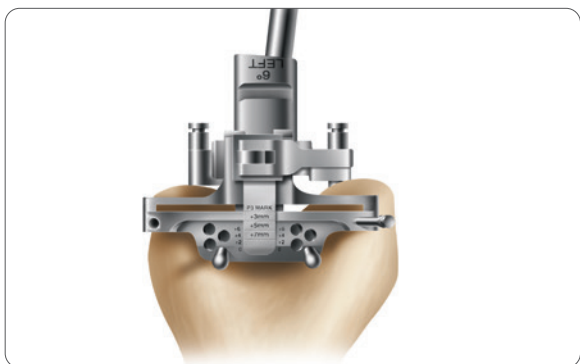

Figure 5
1. Using non-headed SPEED PIN®, pin the distal femoral cutting block to the anterior femur using the holes marked '0'. Once adequate distal femoral resection is noted, an additional headed or non-headed SPEED PIN should be placed obliquely to provide additional stability (**Figure 5**).